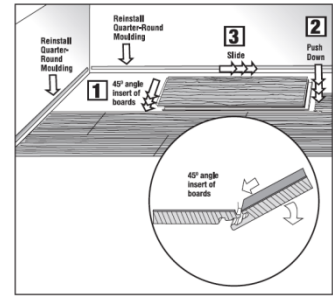

Fig. 39
3. Replace the damaged board with a new one. Reassemble the floor (**Fig. 39, next page**).